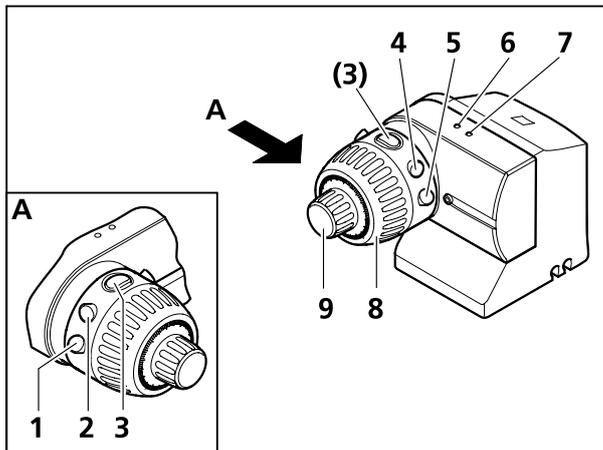

Fig. 45 MARC control unit
- Control of focus motor by using the coarse (Fig. 45/8) and fine drive knob (Fig. 45/9).
- Travel to zoom clickstop positions by pressing briefly keys **1** and **2** (Fig. 45/1 and 2).
- Quick zooming in positive and negative directions by means of a pair of keys – long press of keys **1** and **2** (Fig. 45/1 and 2).
- Quick focusing in positive and negative directions by means of a pair of keys – long press of keys **4** and **5** (Fig. 45/4 and 5)
- Storing a focus position – key **3** (Fig. 45/3).
- Travel to the stored position – key **3** (Fig. 45/3).
- Reversing the sense of rotation of the MARC unit – key **3** (Fig. 45/3).
If a focus motor ready for operation is connected, the blue LED (Fig. 45/7) will be lighting.
The motorized focus can be controlled quickly or slowly by turning the coarse (Fig. 45/8) or the fine drive (Fig. 45/9).
By briefly ( $\leq 200$  ms) pressing key **1** or **2** (Fig. 45/1 or 2), the zoom body will travel to the next lower or next higher clickstop position.
By pressing key **1** or **2** (Fig. 45/1 or 2) for more than 200 ms, the zoom body will start traveling and not stop until you release the respective key or the end of travel is reached.
By pressing key **4** or **5** (Fig. 45/4 or 5), the motorized focusing system will start traveling upwards (**5**) or downwards (**4**) until you release the respective key or the end of travel is reached.
The current focus position will be stored when key **3** (Fig. 45/3) is being pressed between 2 s and 5 s.
The green LED (Fig. 45/6) briefly lighting up and **one** short beep tone on the motorized focusing system will indicate the completion of the storing process after 2 s.
When pressing key **3** (Fig. 45/3) for less than 2 s, the motorized focusing system will travel to the stored focus position.
The sense of rotation will be reversed when key **3** (Fig. 45/3) will be pressed for more than 5 s.
The green LED (Fig. 45/6) briefly lighting up twice and **two** short beep tones on the motorized focusing system will indicate that change-over has been completed.